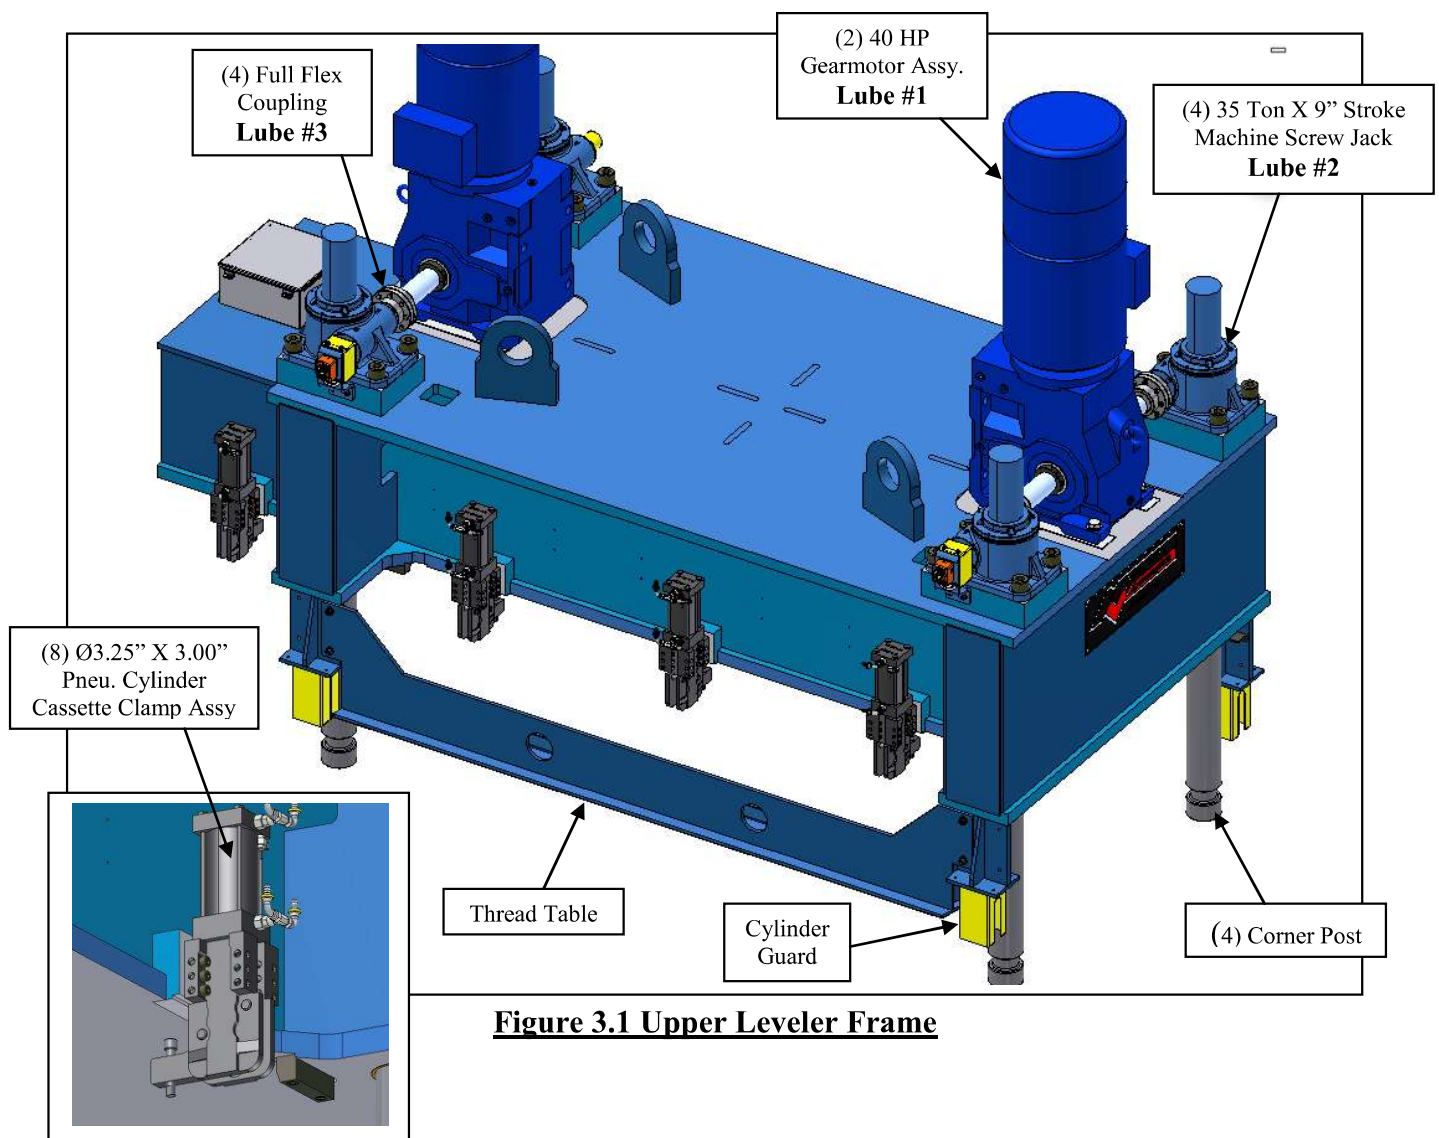

Figure 3.1 Upper Leveler Frame
The main function of the upper leveler frame (Figure 3.1) is to adjust the work roll assembly into position based on the input parameters that the operator enters. All (4) corner posts are tied together and can be adjusted by means of four 35-ton machine screw jacks driven by two 40 HP variable speed AC motors. The upper frame is also designed to support 280,000 lbf. of separating load generated from the material leveling process.
Primary components of the upper frame assembly are illustrated below in Figure 3.1.